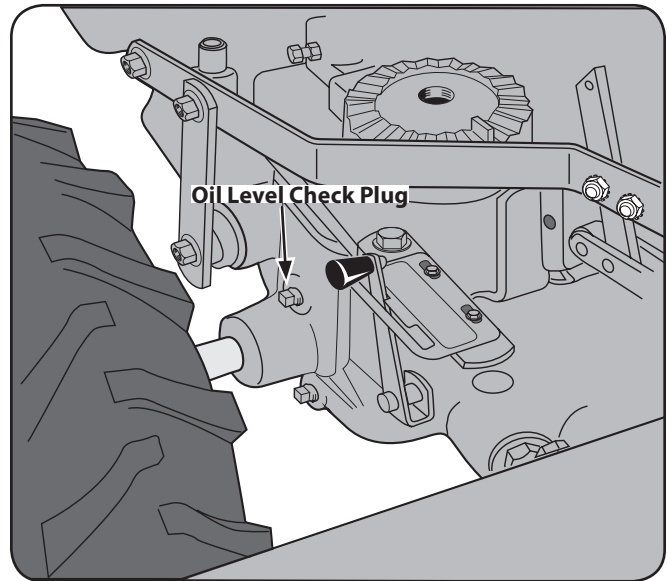

Figure 6-6
4. Use a $\frac{3}{8}$ " wrench to remove the oil level check plug on the left side of the transmission housing. See Figure 6-6.
- Remove the dipstick from the tine attachment. See Figure 6-6.